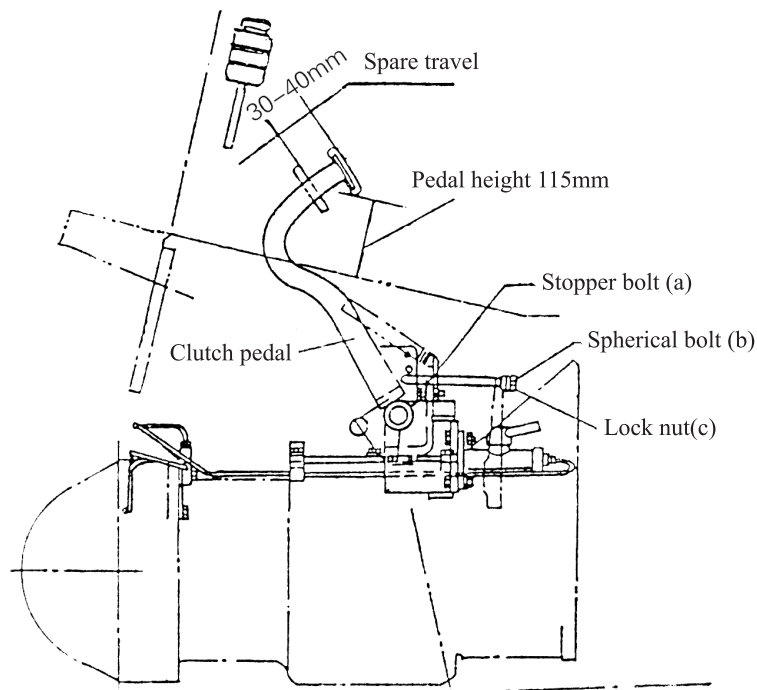

Fig.2-2 Clutch pedal
(6) After making certain that the driving shaft end has entered the middle bearing of the flywheel, tighten the slide lead screw to the torque of 107-119N.m (10.9-12.1kgm).
(7) Install the pressure plate case on the flywheel.
(8) Press the clutch pedal and remove the three spacers.
(9) Adjust the travel of the clutch pedal. (See Fig.2-2)
### 2.4 Adjustment of Clutch Pedal Travel (See Fig.2-2)